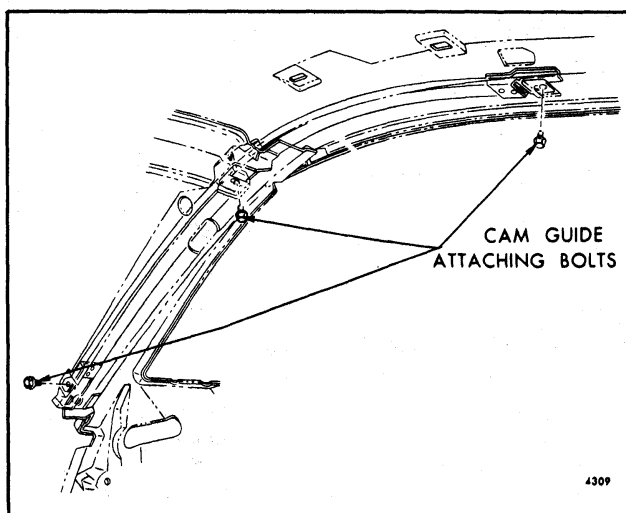

Fig. 7-128-Tailgate Window Left Guide Cam Attachment
11. For removal of left guide cam, remove guide attaching screws and withdraw guide from body (Fig. 7-128).